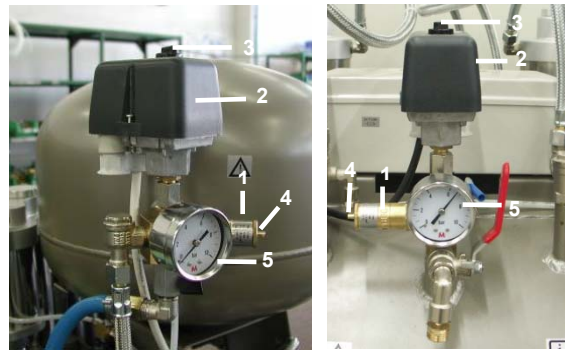
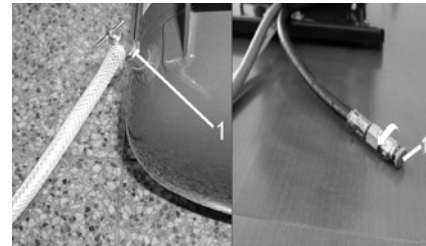

Fig.13
Fig.14
(Fig.13)
Compressors (Fig.14, Fig.15)
If the compressor will not be used for a prolonged time period, drain any condensate from the air tank. Then turn on the compressor for 10 minutes, keeping the drain valve open (1) (Fig.14, Fig.15). Switch off the compressor by switch (3) at pressure switch (2) (Fig.13), close the drain valve and disconnect the appliance from the mains.
- Release air pressure in the pressure tank by opening the drain valve (1) (Fig.14, Fig.15).